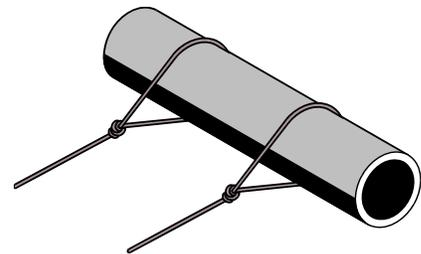

Figure 15 Deadman Crest Anchor
- Load transfer to crest anchorage is required when a driven anchor array is impractical (e.g. when a geomembrane or impervious material is present). Refer to Figure 15.